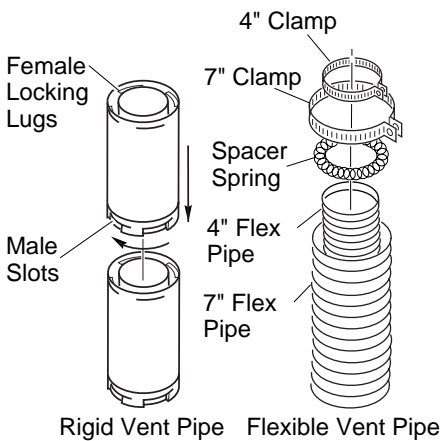

Figure 11 - Vent Pipe Connections
Twist-lock Procedure: The female ends of the pipes and fittings have four locking lugs (indentations). These lugs will slide straight into matching slots on the male ends of adjacent pipes and fittings. (All connections must be sealed with high temperature silicone sealant as specified in the second warning statement on page 7.) Push the pipe sections together and twist one section clockwise approximately one-quarter turn until the sections are fully locked. See Figure 11, page 9. *Note:* Horizontal runs of vent must be supported every three feet. Use wall straps for this purpose.
Flexible vent pipe must be installed with spacer springs every 12". See Figure 11, page 9. All connections must be clamped tightly and sealed with high temperature silicone sealant as specified in the second warning statement on page 7.
2. Assemble the desired lengths of pipe and elbows necessary to reach from the fireplace flue up through the firestop. All connections must be sealed with high temperature silicone sealant as specified in the second warning statement on page 7. Be sure all pipe and elbow connections are fully twist-locked (see Figure 11, page 9).